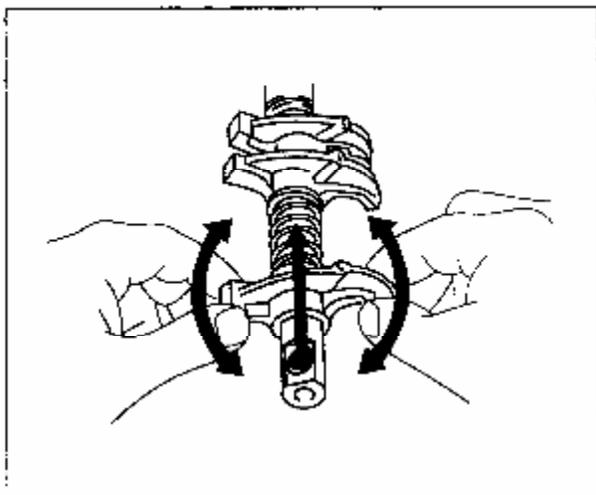

Figure 3-16 Check Valve Rocker Arm and Rocker Arm Shaft
(1) Check for wear on contact surface between valve rocker arm and valve, if necessary, polish this surface or replace the rocker arm.
(2) Push and turn the rocker arm by hand along the direction shown in figure 3-16, if a relative movement margin is felt, disassemble and check the fitting clearance between the valve rocker arm and the rocker arm shaft.